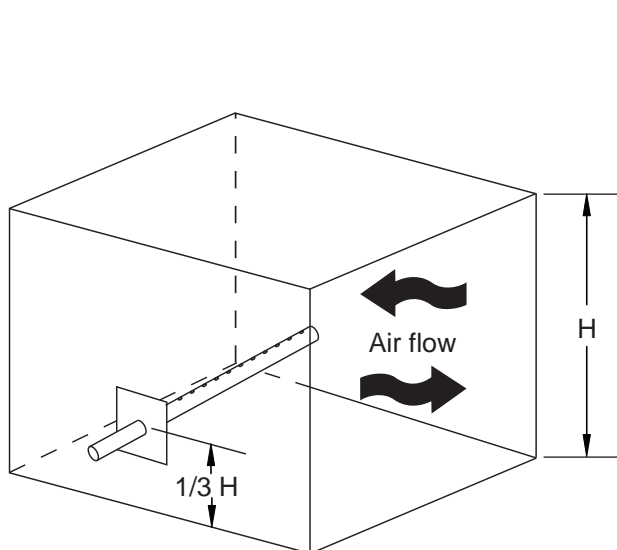

Fig. 14a HORIZONTAL DUCT
14.1 Proper installation of the diffuser and steam hose is critical for the trouble-free operation of the humidifier. Please find an accessible location on the duct and make sure you have a **minimum length of 35"** of straight duct downstream (without elbows or other obstructions on which the steam could condensate), to allow the steam to disperse easily into the airflow. Once a suitable location has been found make a 1 1/8" middle insertion hole in the warm air duct for the steam diffuser. For a horizontal duct, make the 1 1/8" hole in the lower third of the duct height. Please see Fig. 14a. For a vertical duct, make the 1 1/8" hole in the middle of the duct. Please see Fig. 14b.